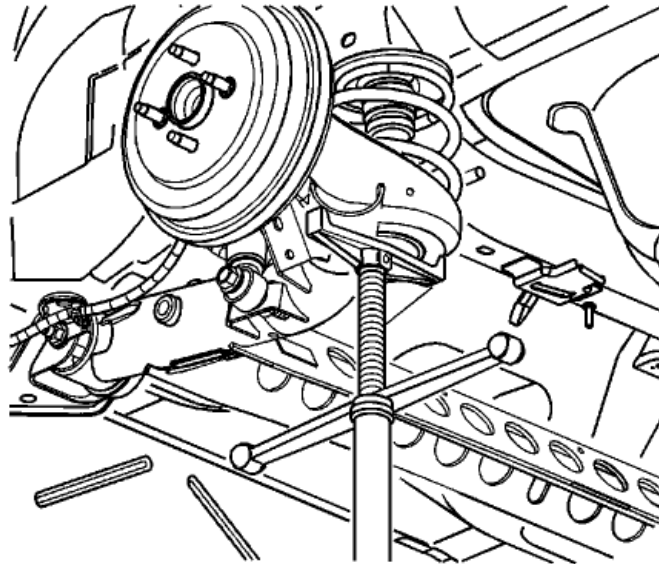

fig. 2
3. Using a tall lift-jack or jack stand, lift the rear axle partially near the shock mount and support (fig. 2).